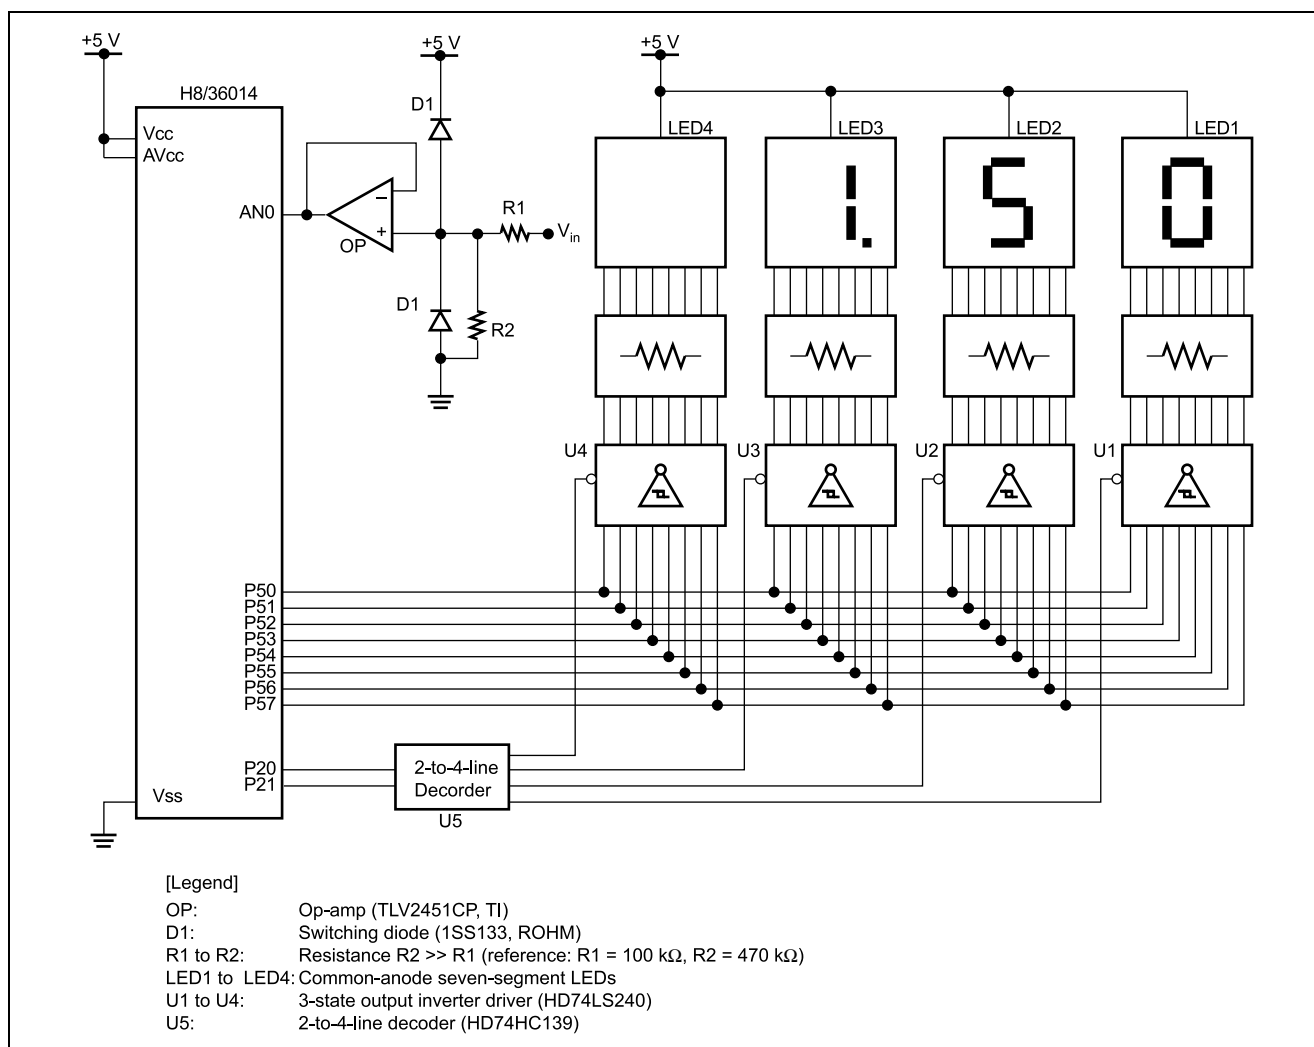

Figure 1.1 Hardware Configuration
1. Figure 1.1 shows the hardware configuration of DC voltage measurement. As shown in the figure, the op-amp is connected to the analog input pin 0 (pin AN0).